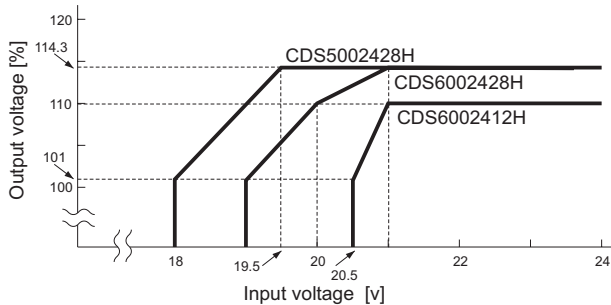

Fig.4.6 Input voltage derating curve
CDS5002428H, CDS6002412H, CDS6002428H : When the output voltage adjustment range is 101% or more, the input voltage range is limited (Fig.4.6).
(1) Adjusting method by external resistor
■ By connecting the external potentiometer (VR1) and resistors (R1, R2), output voltage becomes adjustable, as shown in Fig.4.6, recommended external parts are shown in Table 4.3.